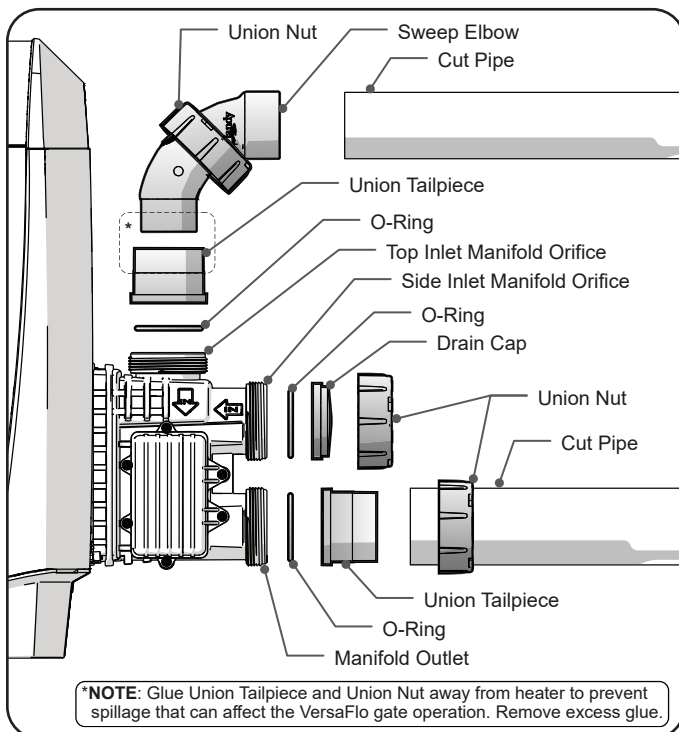

Figure 12. Inlet Piping
- Slide the union nut onto the cut pipe length. or sweep elbow. Ensure proper nut orientation with threads directed towards the heater manifold. See *Figure 12*.